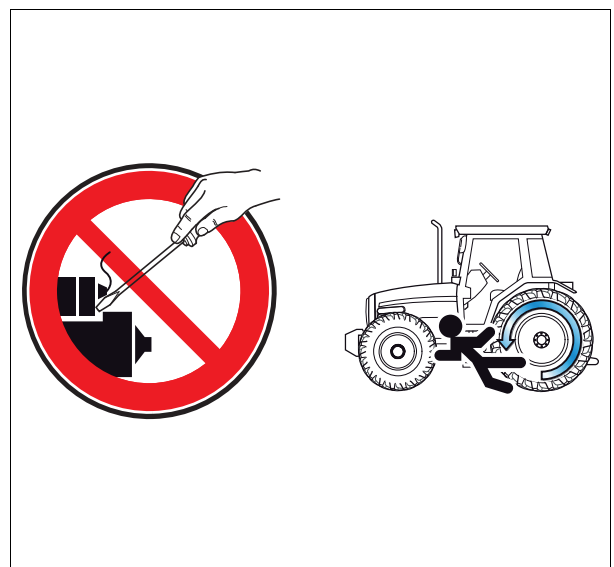

Fig. 1.
**Start the engine with the ignition key and from the operator's seat only. Do not attempt to start the engine by short-circuiting the starter terminals: the tractor may start in gear and this could cause serious injury or death to anyone in the vicinity fig. 1.**